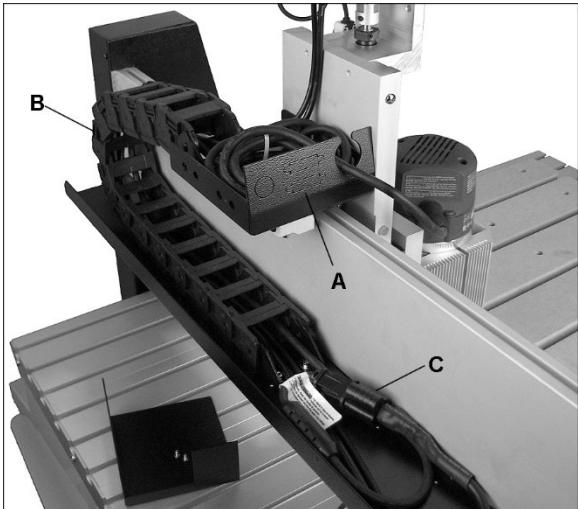

Figure 7-23 (PM-2X2R only)
Position power cable so it will not interfere with vertical or horizontal movement of head. See Figure 7-23. Optimal method is to feed plug through box (A) and drag chain (B), and connect to receptacle (C) in the tray. Keep excess length of cable inside box, as shown (cable ties not included.).